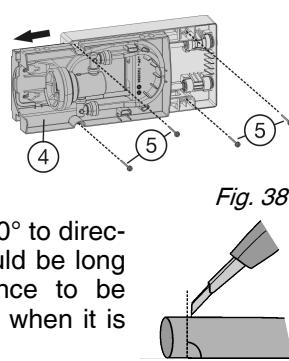

Fig. 38
- ▶ Pull the tray Fig. 38 (4) out until it catches.
- ▶ Secure the module with 4 screws Fig. 38 (5) through the recesses in the front and directly through the module in the back.